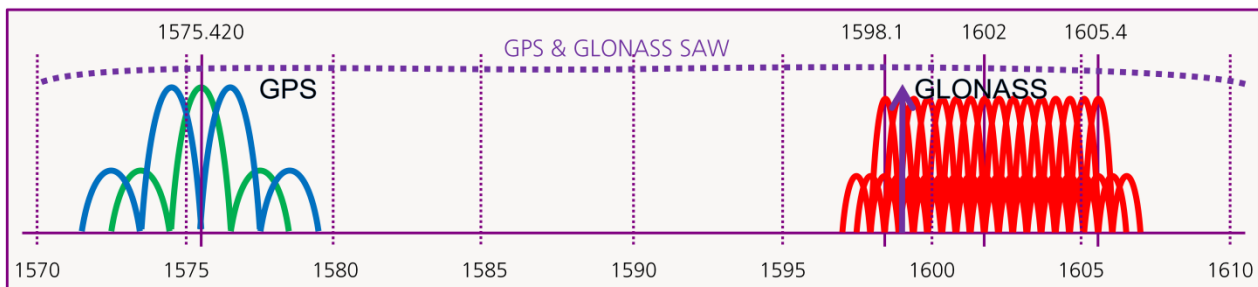

Figure 6: GPS & GLONASS SAW filter
- **Wide RF path** (antenna, SAW) to allow GLONASS & GPS signals to pass (see Figure 6)
- Use a GPS & GLONASS SAW filter (see Figure 6) that lets both GPS and GLONASS signals pass (see the recommended parts list in section 3.5)
In combined GPS & GLONASS antennas, the antenna is tuned for receiving both signals and the filter has a larger bandwidth to provide optimal GPS & GLONASS signal reception (see Figure 6).